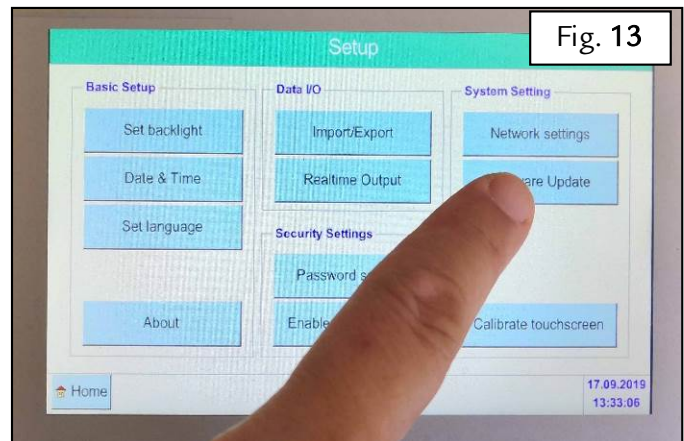

Fig. 13
- From the next screen, press “**Software Update**” to continue - Fig. 13.